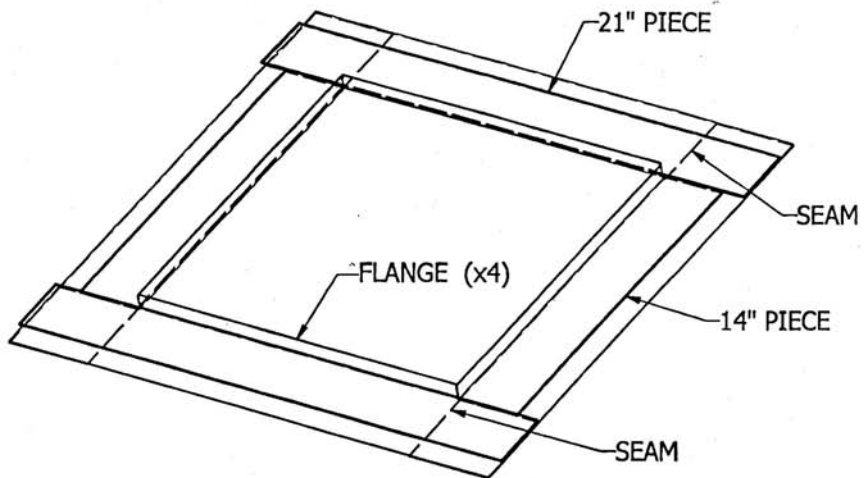

FIGURE 4
14. Apply a bead of Geocel or Silaprene caulking (DO NOT USE SILICONE CAULKING) around the perimeter of the mounting framework. Next, apply a bead of caulking along the four seams in the framework and also the four inside vertical seams where the framework flanges meet. Apply the caulking as shown in Figure 4. **IMPORTANT: MAKE SURE THE CAULKING SEALS THE FOUR CORNERS WHERE THE STEEL OVER-LAPS. USE A PUTTY KNIFE ON THE SEAMS TO PRESS THE CAULKING INTO THE SEAM AND TO FLATTEN THE BEAD WHERE THE A/C MOUNTING GASKET WILL COVER.**